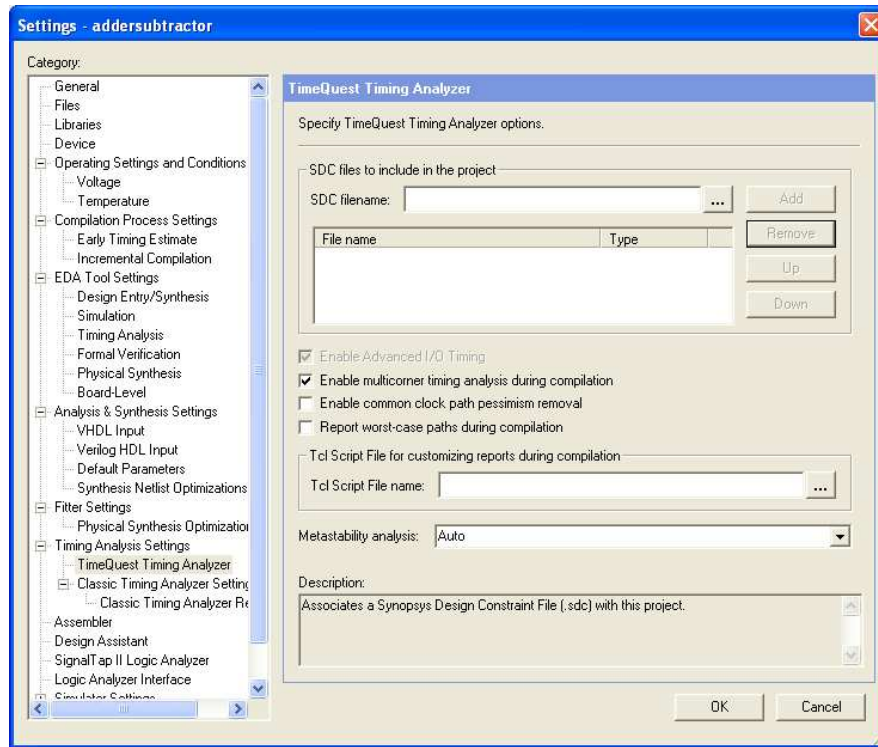

Figure 34: Adding SDC file to project.
2. Click **Assignments > Timing Analysis Settings** and choose **Use TimeQuest Timing Analyzer** during compilation. Expand the **Timing Analysis Settings** category and then click on **TimeQuest Timing Analyzer Settings** to reach the window in Figure 34. Here, we can add the SDC file we have created to the project. Click on the **SDC Filename: ...** button and select **addersubtractor.sdc**, which is the SDC file we created using TimeQuest Timing Analyzer. Click on **Open** to return to the window in Figure 34 and click **Add** to associates the SDC file with this project.